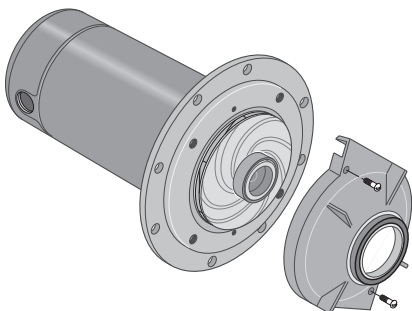

FIGURE 12 – REMOVE DIFFUSER
3. Remove diffuser (Figure 12). The exposed impeller can now be cleaned.